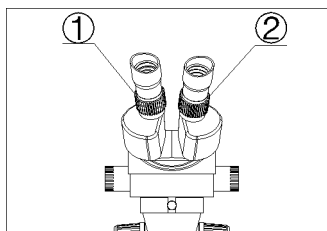

Fig.3
- 5) Observe the specimen through the right eyepiece and make the image clear by turning the right diopter adjusting ring ②. (Fig.3)
- 6) Redo the step(1),(3),(4)and (5) till the right adjusting ring is more precise
- 7) Do the step (4) and make the image clear which is observed through the left eyepiece by turning the left diopter adjusting ring ①. (Fig.3)